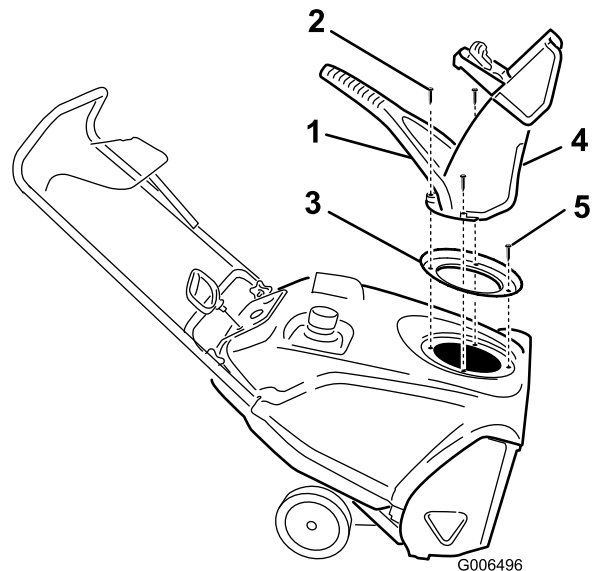

Figure 24
3. Remove the discharge chute, the discharge chute handle, and the chute seal by removing the 3 large screws and one small screw (Figure 24).
4. Remove the 4 screws that secure the shroud (Figure 24).